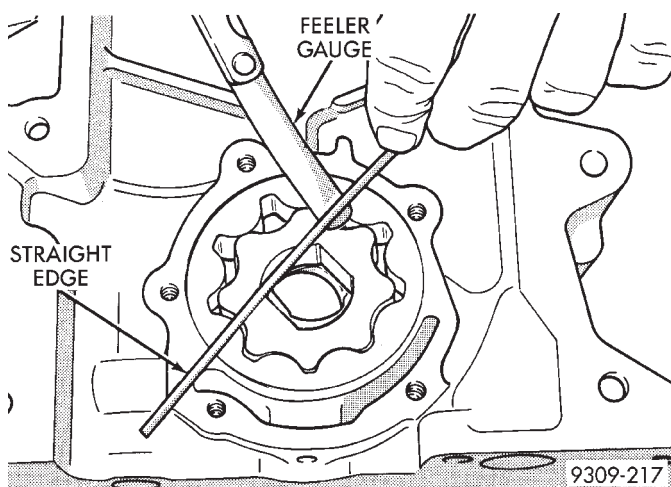

Fig. 12 Measuring Clearance Over Rotors
(7) Place a straightedge across the face of the CCC, between bolt holes. If a feeler gauge of .102mm (.004 inch) or more can be inserted between rotors and the straightedge, replace pump assembly (Fig. 12). **ONLY** if rotors are in specs.